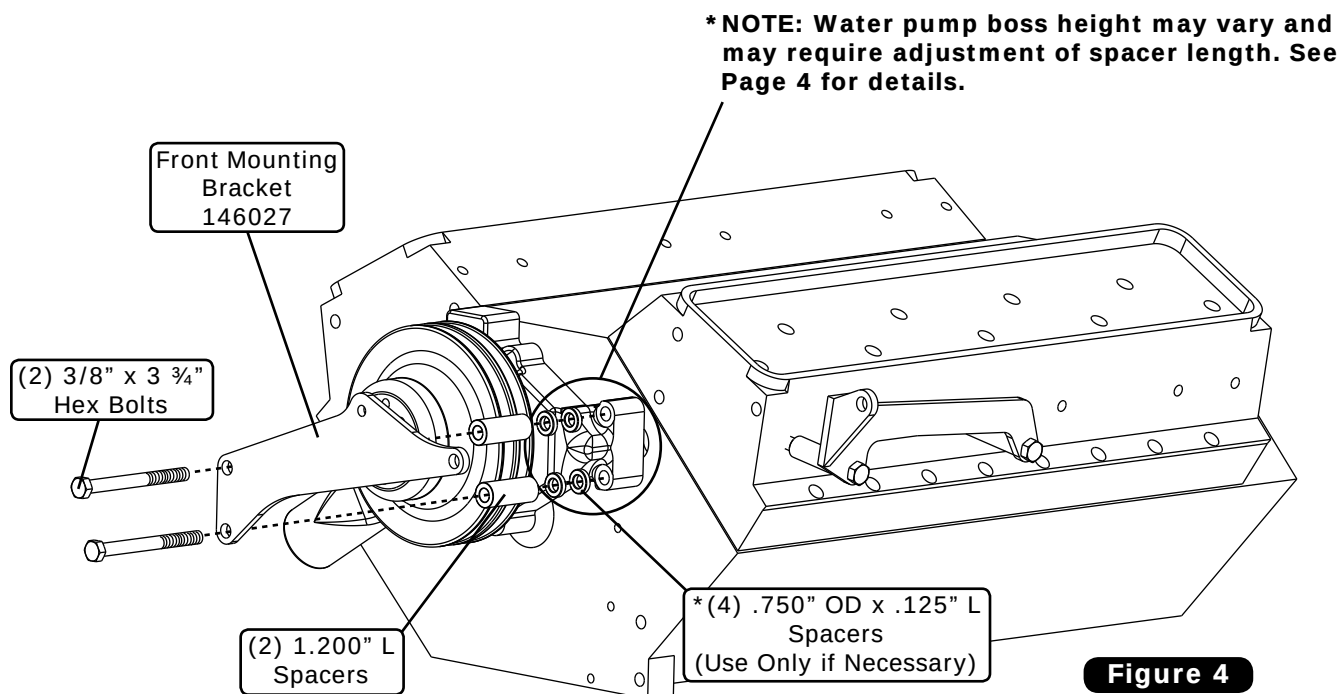

Figure 4
1. Install the front mounting bracket onto the water pump ear as shown in Figure 4, below.